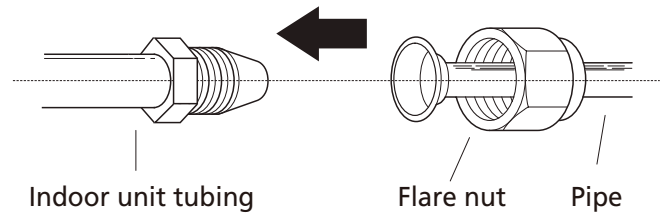

Fig. 5.7
1. Align the center of the two pipes that you will connect. See **Fig. 5.7**.